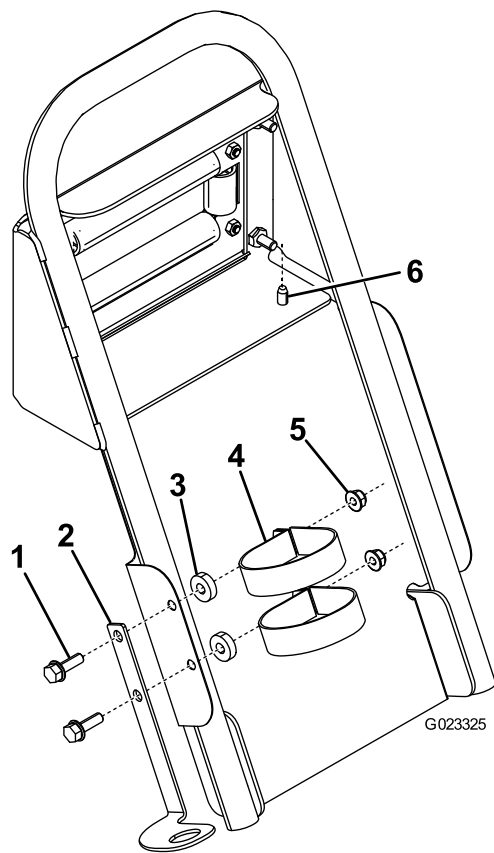

Figure 9
7. Secure the top of the mud shield to the handle using 2 self-tapping screws (Figure 9).
8. Attach the spray gun holder to the mud shield as shown in Figure 9.